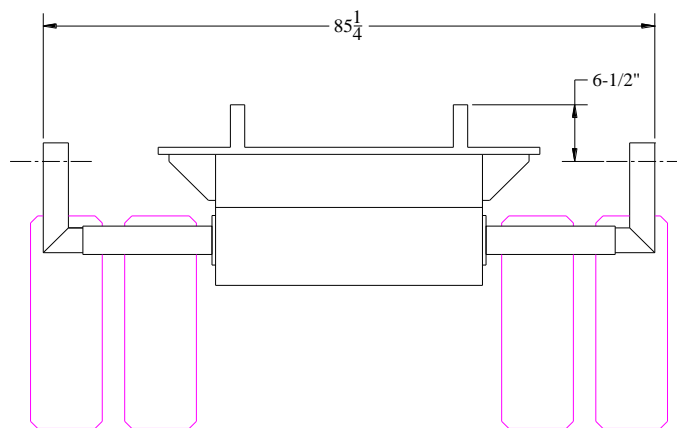

Figure 8
- 1) Slide the "L" shaped pieces into the tubes that are mounted to both sides of the truck. With a 108" width regulation, the legs can only be 85 1/4" from outside to outside. Refer to Fig. 8